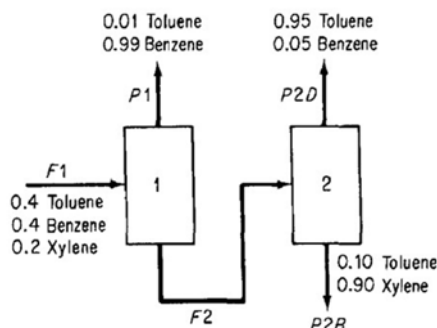

Figure SAT11P1
1. A two-stage separations unit is shown in Figure SAT11P1. Given that the input stream F1 is 1000 lb/hr, calculate the value of F2 and the composition of F2.
2. A simplified process for the production of  $\text{SO}_3$  to be used in the manufacture of sulfuric acid is illustrated in Figure SAT11P2. Sulfur is burned with 100% excess air in the burner, but for the reaction  $\text{S} + \text{O}_2 \longrightarrow \text{SO}_2$ , only 90% conversion of the S to  $\text{SO}_2$  is achieved in the burner. In the converter, the conversion of  $\text{SO}_2$  to  $\text{SO}_3$  is 95% complete. Calculate the kg of air required per 100 kg of sulfur burned, and the concentrations of the components in the exit gas from the burner and from the converter in mole fractions.